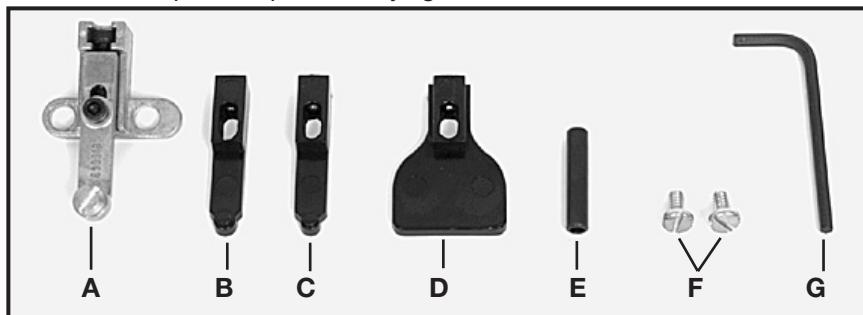
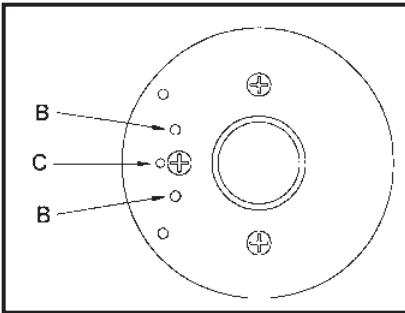

Fig. 2
Fig. 3
The Model 73100 Edge Guide Kit is available (as an accessory), for use with the Model 310 trimmer. The 73100 is designed for use with non-piloted bits, on curved or straight applications. Non-piloted bits can produce a 90° straight cut, a 10° bevel cut, or a 22° bevel cut. The kit contains the parts shown in Fig. 2. Install the 73100 guide as follows:
- Position the base and roller guide assembly (A) Fig. 2, to the base unit. The alignment pin on the back of the guide base fits into hole (C) Fig. 3.
- Place the two mounting screws (F) Fig. 2, through the guide base and thread into sub-base holes (B) Fig. 3. Tighten screws firmly.
3. Remove roller guide and replace with flush trimming guide (B) Fig. 2. This guide may be identified by the molded on letter "F". The stud on the end of this guide must face toward the trimmer base.
4. Install guide setting gauge (E) Fig. 2, into trimmer collet (see TO INSTALL BIT). Install trimmer motor to base. Adjust guide so that hole in end of gauge may be positioned over the guide stud.
1. Follow Steps 1 through 5 under FLUSH TRIMMING, except install bevel trimming guide (C) Fig. 2. This guide is identified by the letter "B" molded onto it.
The straight edge guide (D) Fig. 2, maybe used with either bit for trimming straight edges.